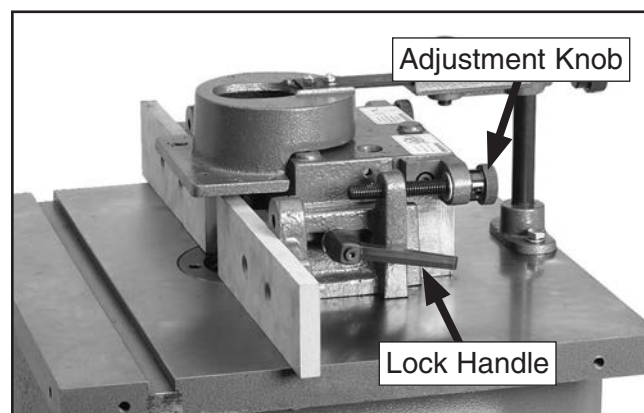

Figure 38. Fence adjustments.
1. Loosen the fence lock handle (see **Figure 38**).
2. Turn the fence adjustment knob (see **Figure 38**) until the fence is set to the desired position.